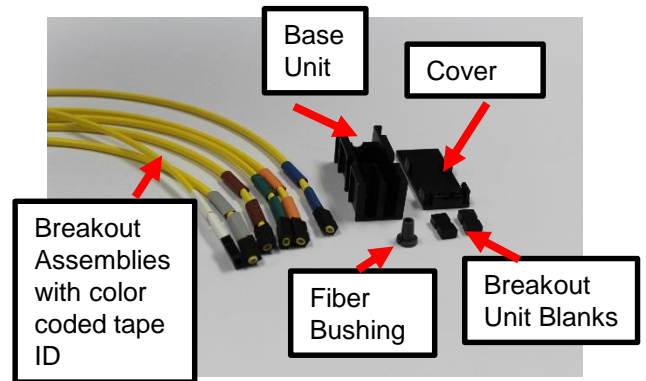

Figure 1
4.2 FT72FBK-12SU Field Termination Kit (Base Unit with Cover, six 3.8mm OD Breakout Assemblies each with two color-coded marker tubes, one 3.8mm Bushing, two blanks. **See Figure 1.**
Note: Ensure two same-colored marker tubes are on each Breakout Assembly.. See **Figure 1**.